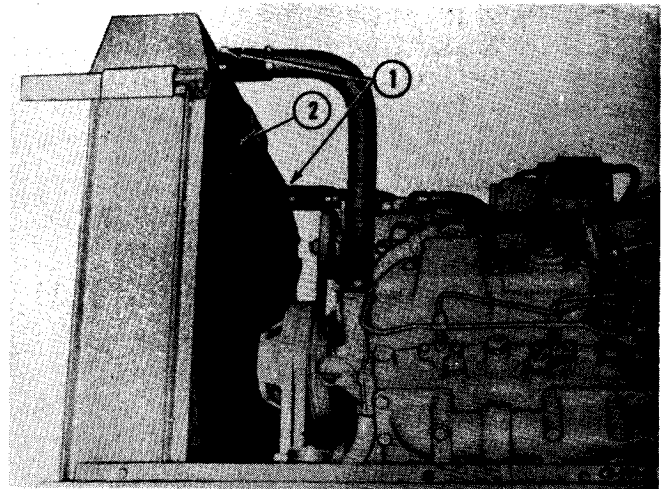

Figure 2-11
Drain radiator (2, Fig. 2-11) into a clean re-sealable container by opening petcock located under the radiator. Loosen hose clamps (1) on each side of radiator and disconnect hoses from radiator.